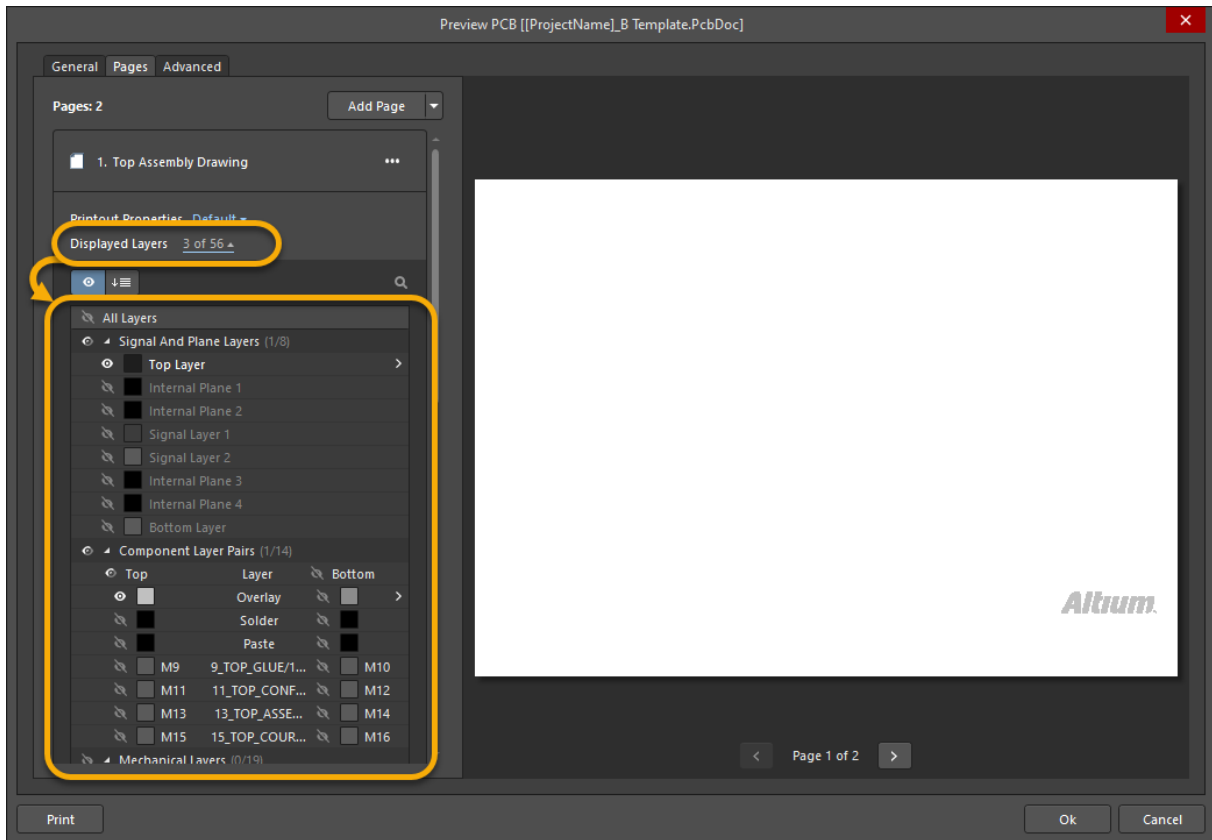

Figure 20. Preview with Layer Option
67. Select the *Display Layers* to bring up the *Preview PCB* dialog, Figure 20.